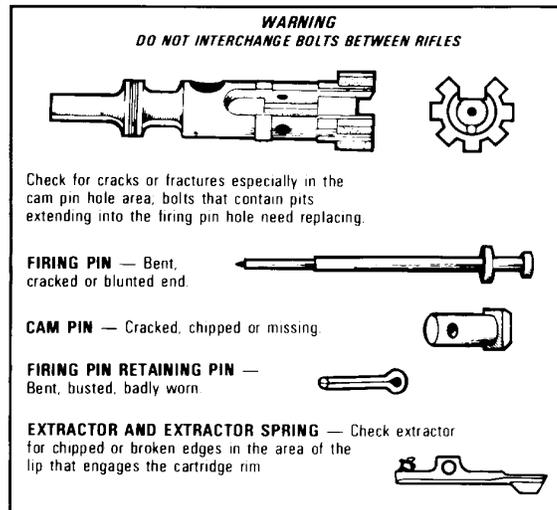

Figure 10-23. Inspecting the Bolt Assembly
4. **Inspect Disassembled Rifle Bolt Assembly** (figure 10-23).